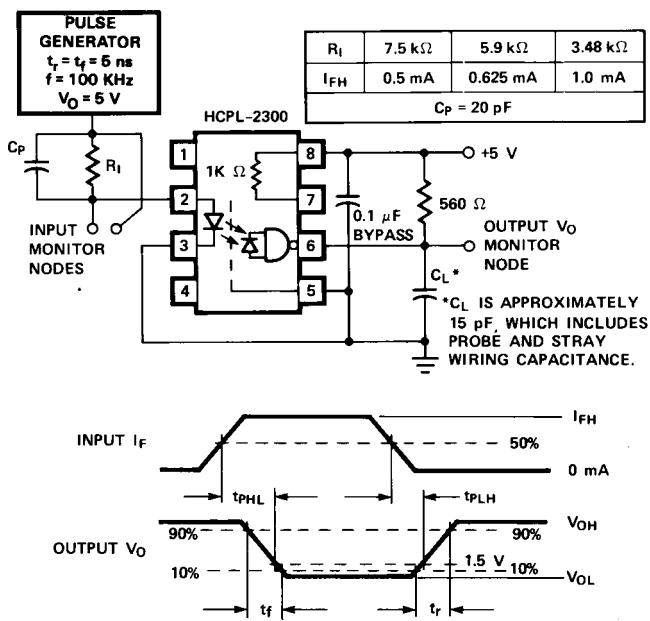

Figure 8. Test Circuit for t_{PHL}, t_{PLH}, t_r, and t_f.
8. C_{P} is the peaking capacitance. Refer to test circuit in Figure 8.